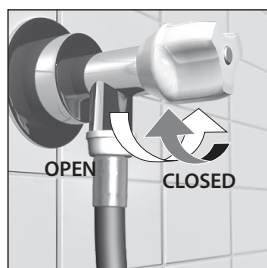

Figure 8
2.12 After the end of a washing the machine is to be switched off, disconnected from the electrical mains, the plug is to be pulled out of the socket, and the water supply cock is to be closed (see fig. 8).
3.4.3 During washing the water supply cock must fully be opened in accordance with figure 8.
6.3 The power supply cord shall be inserted to the socket and the water supply cock shall be opened (see fig. 8).